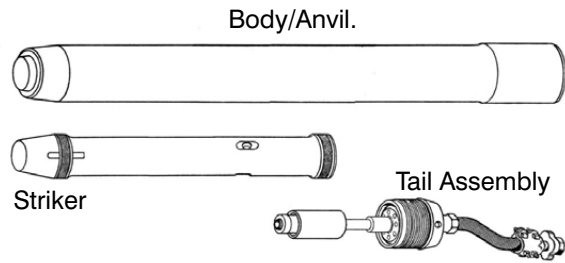

Figure 9-32. Components for Final Assembly
1. Refer to Figure 9-32, and gather the following components for final assembly:
- The Body/Anvil (1).
- The Striker (2)